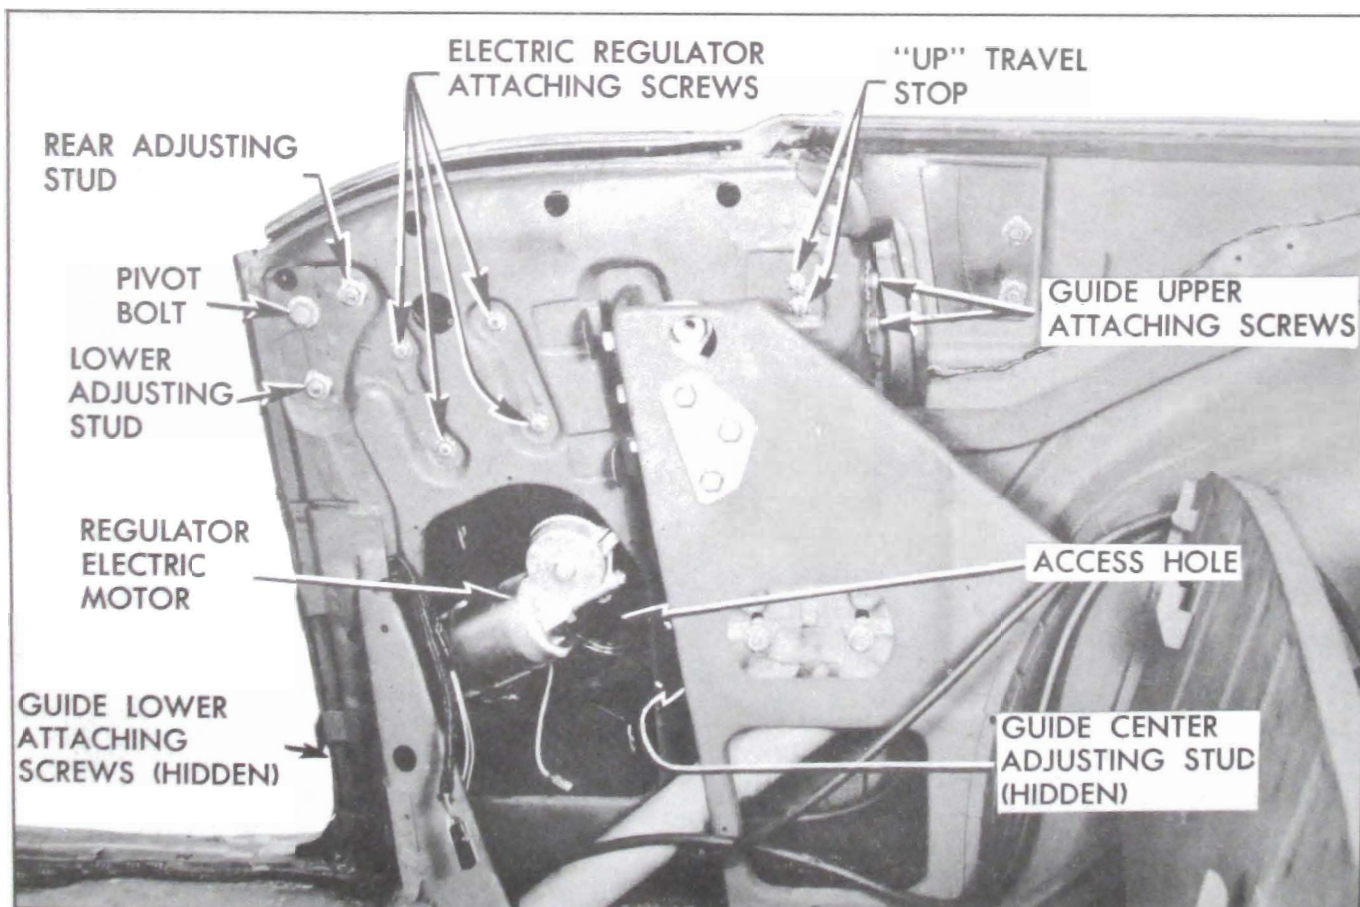

Figure 13-72—Rear Quarter Window Installation
5. Remove access hole cover. To adjust rear quarter window "down" travel when lower travel limits are reached: loosen "down" stop attaching screw at lower area of front guide; adjust "down" stop as desired, and tighten attaching screw. See Figure 13-72.
In connection with preceding adjustments, it may be necessary to adjust rear quarter window guide. To adjust guide; loosen guide upper, center and/or lower attachments; adjust guide to desired location and tighten guide attachments. See Figure 13-72.
4. To install, reverse removal procedure. See Figure 13-72.
3. To install, reverse removal procedure. See Figure 13-72.